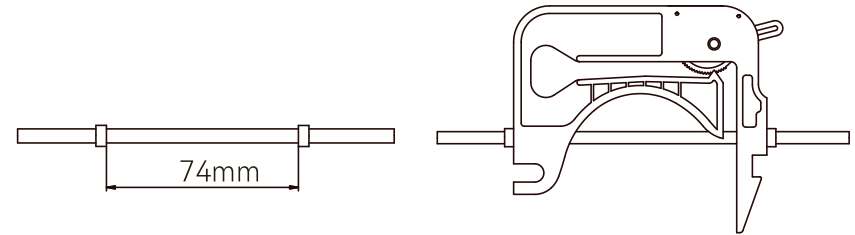

Figure 4 Tube Installation
- Put the tube onto the tube clamp with a length of 74mm between the two tube clamps, as shown in Figure 4.